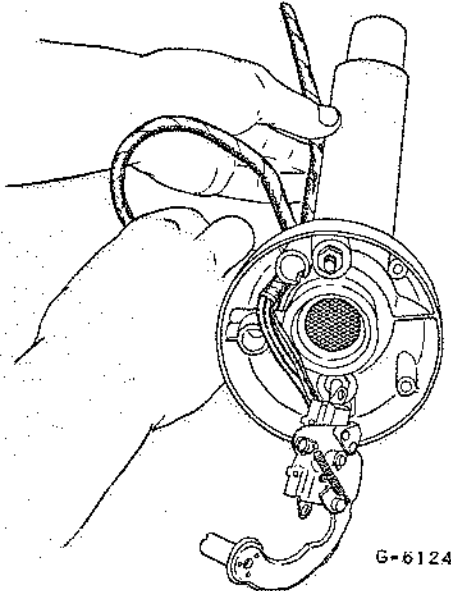

Fig. 5 - Removal or Assembly of Cables
5. Untape the sixth cable (coloured red) and tape the six ends together as shown in Figs. 5 and 6.
6. Withdraw the switch assembly with cable as shown in Figs. 5 and 6.